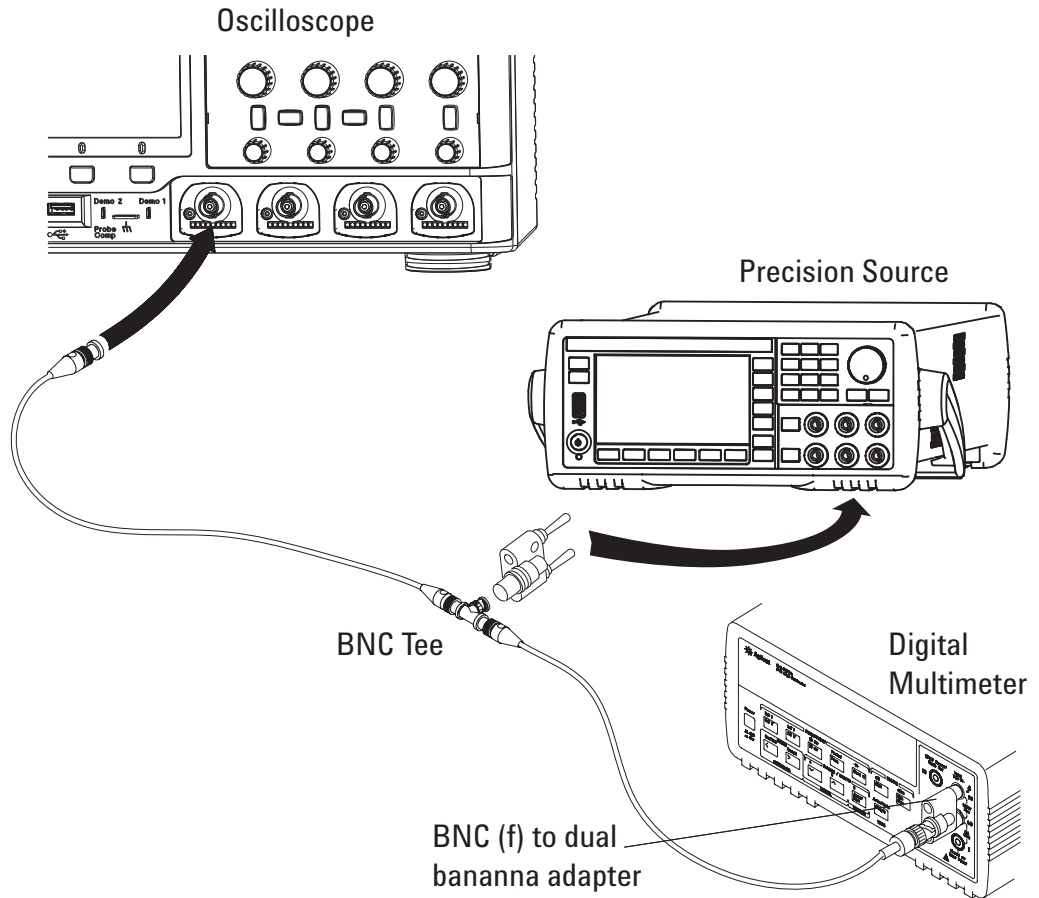

Figure 5 Setting up Equipment for Dual Cursor Accuracy Test
- 4 Use the BNC tee and cables to connect the precision source /power supply to both the oscilloscope and the multimeter (see Figure 5).